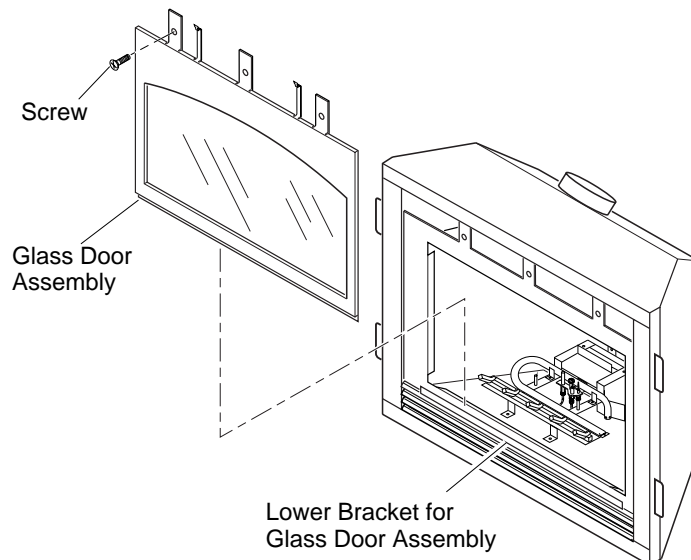

Figure 43 - Removing/Replacing Glass Door
4. Grasp door by both sides and ease it upward off of the lower bracket (see Figure 43).